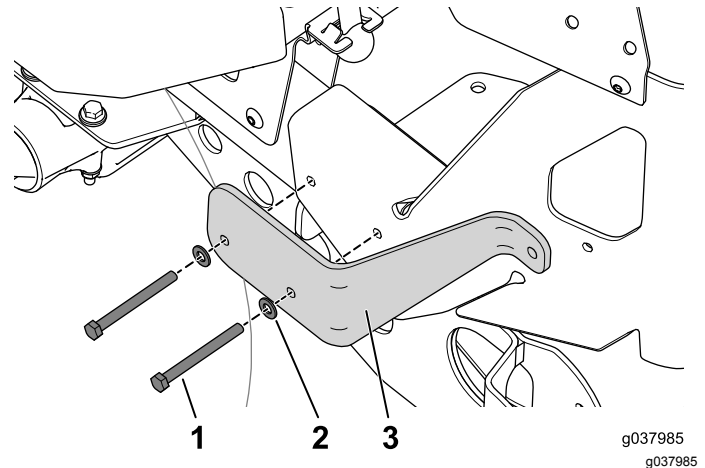

Figure 12
3. Align the holes in the support bracket to the holes in the frame (Figure 12).
4. Insert the 2 bolts (5/16 x 3-1/4 inches) with washers into the holes(Figure 12).